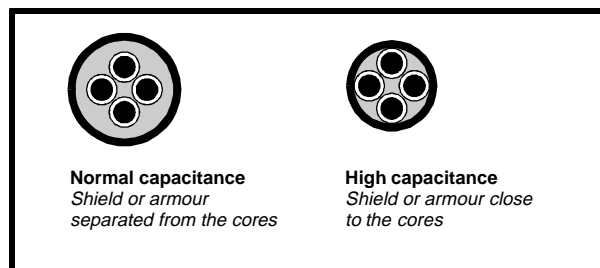

Figure 2–1 Cable construction influencing the capacitance
- **High-capacitance cables** Most cables have an insulating jacket between the cores and the armour or shield; these cables have a low capacitance and are recommended. Cables that do not have an insulating jacket tend to have high capacitance; if a cable of this type is used, the maximum cable length is half that quoted in the table. (Figure 2–1 shows how to identify the two types.)